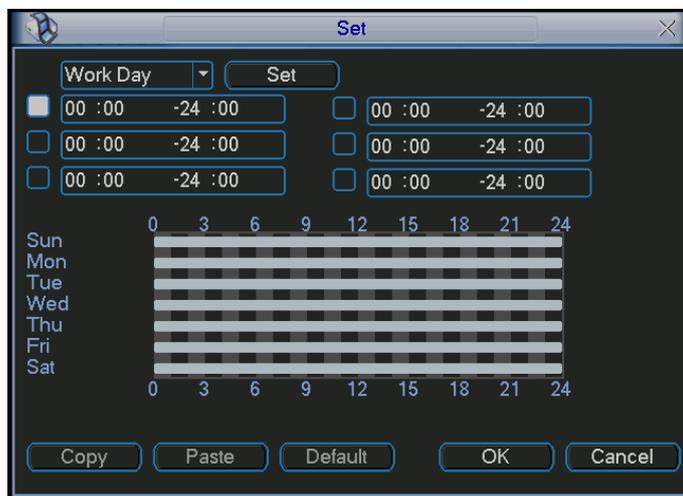
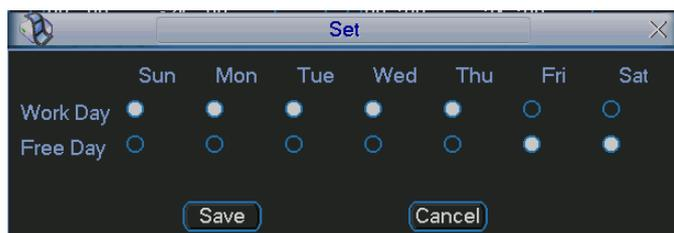

Figure 4-16
Figure 4-17
- Period: Click set button, you can see an interface is shown as in Figure 4-16. Here you can set for business day and non-business day. In Figure 4-16, click set button, you can see an interface is shown as in Figure 4-17. Here you can set your own setup for business day and non-business day.